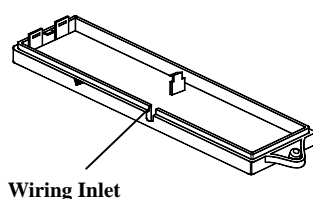

Fig. 1
1. Loosen the screw of the radio transmitter TX-3FS and open the cover. Use a pair of pliers or cutter to break the plastic of the wiring inlet (Fig. 1). Then connect the detector to the AUX Input Terminals of the transmitter PC Board and insert two AAA alkaline batteries.